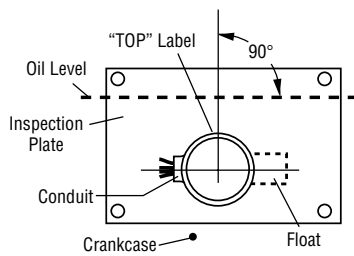

Figure 4
6. Thread the L971 switch into crankcase hole until "TOP" label is up (Figure 4). Be sure the float moves freely and there are no obstructions.